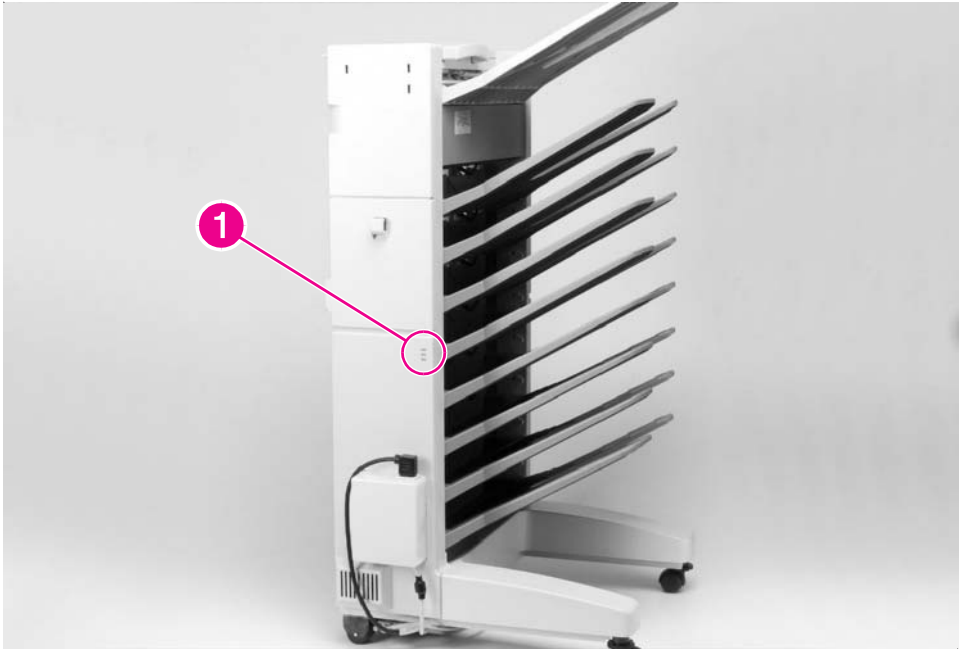

Figure 6-172 8-bin Mailbox Diagnostic LED PCA (1 of 2)
- 1** Locate the Diagnostic LED that is on the back side of the 8-bin Mailbox (Figure 6-172, callout 1).